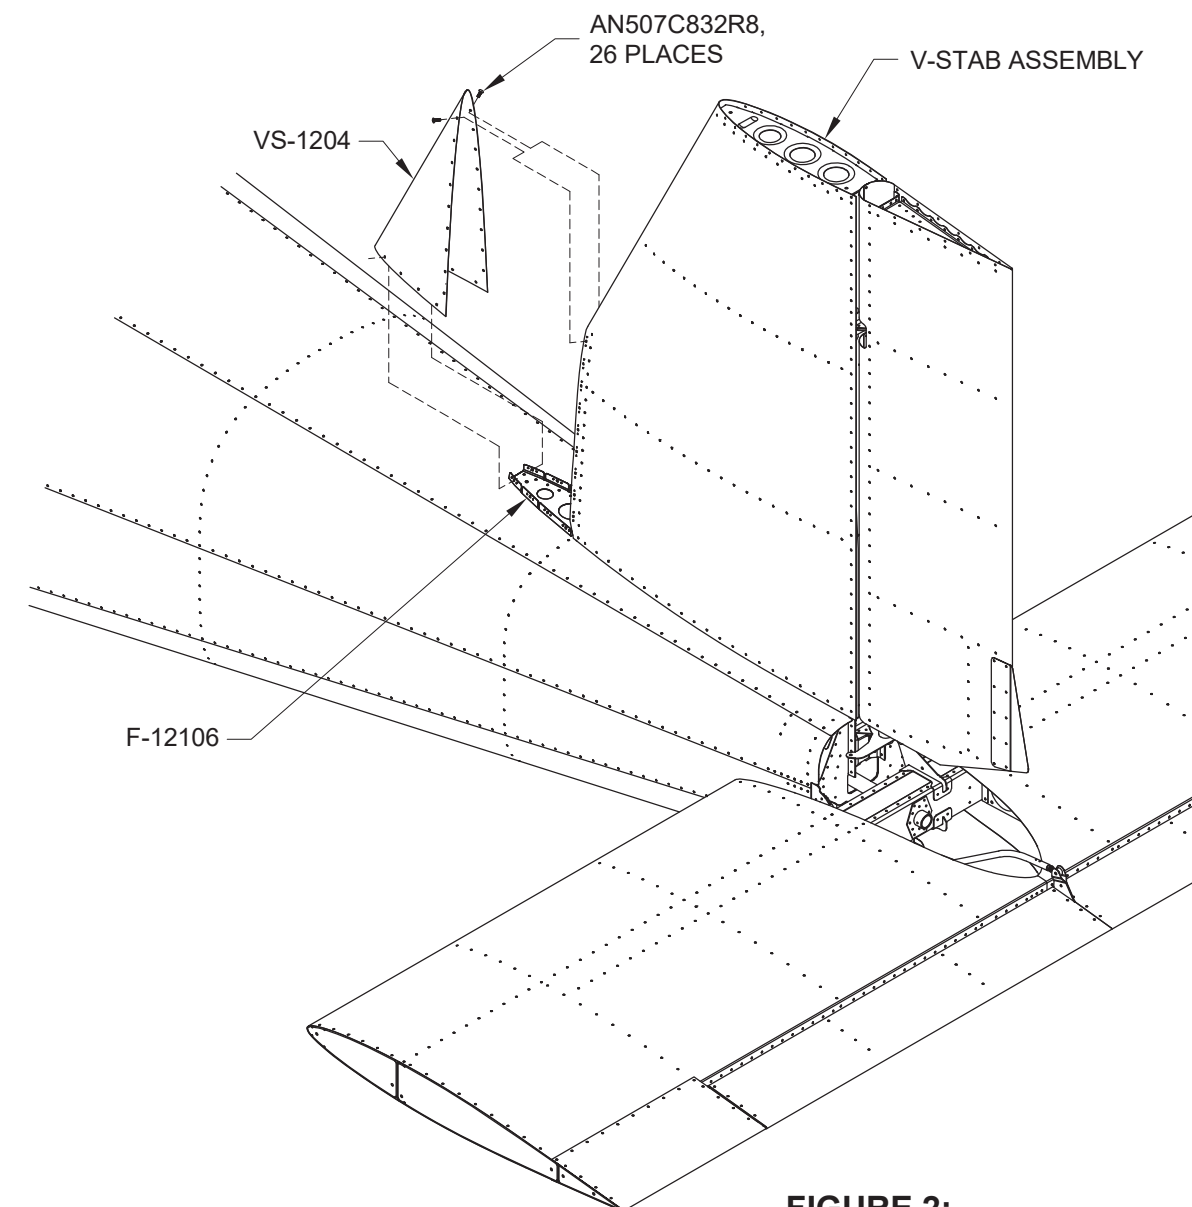

FIGURE 2:
Step 4: Install the VS-1204 Fwd Skin to the V-Stab Assembly and the F-12106 using the hardware called out in Figure 2.